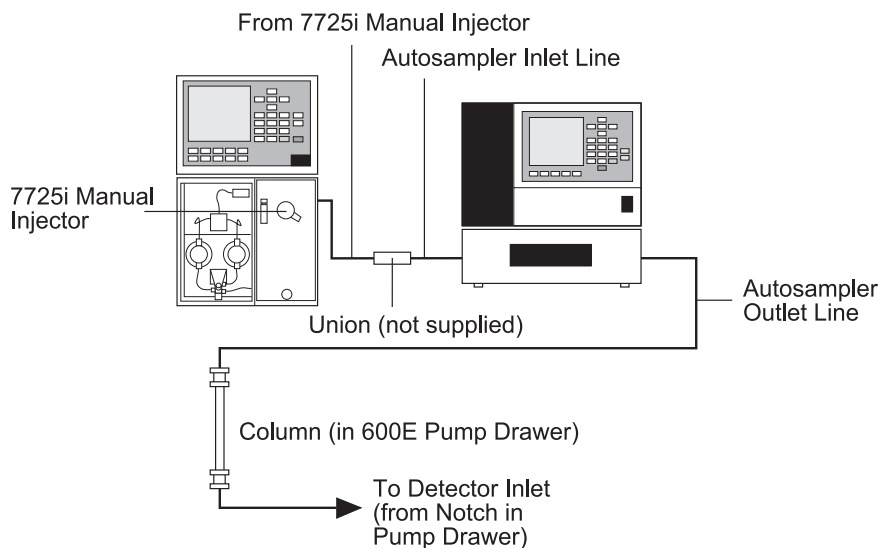

Figure 2-16 Rheodyne 7725i Manual Injector and Autosampler in Series
1. Place the autosampler next to the system (Figure 2-16). Allow room for access to eluent reservoirs.
1. Place the autosampler on the selected side of the system (Figure 2-16). Allow room for access to the eluent reservoirs.